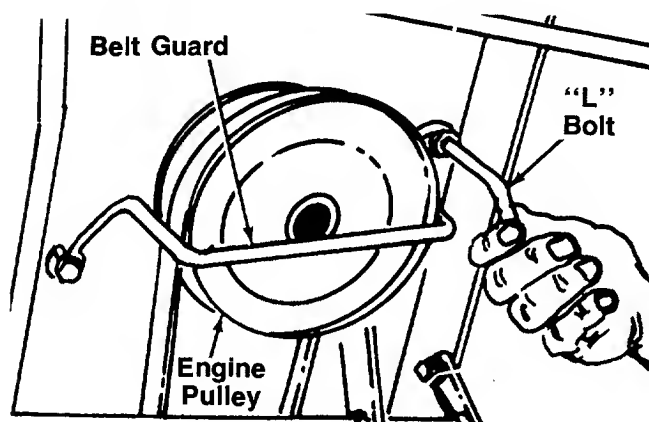

FIGURE 21.
4. Release the belt guard by unscrewing the "L" bolt next to the engine pulley. See figure 21.